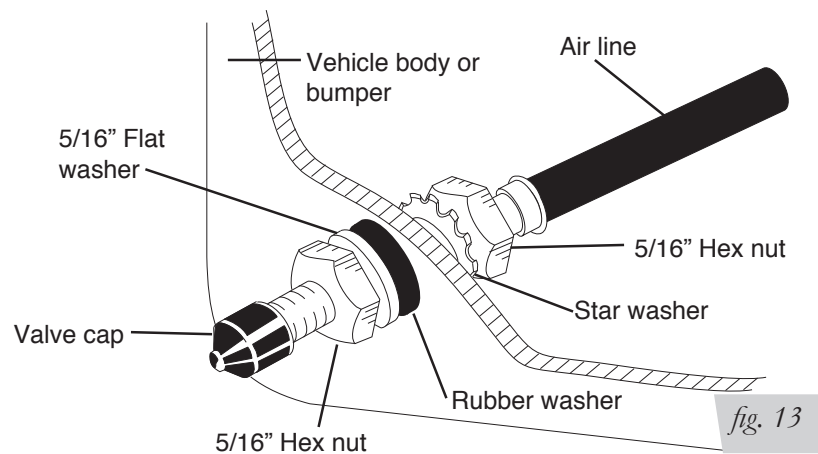

fig. 13
4. Place a 5/16" nut and star washer on the air valve. Leave enough of the inflation valve in front of the nut to extend through the hole and have room for the rubber washer, flat washer, and 5/16" nut and cap. There should be enough valve exposed after installation—approximately 1/2"— to easily apply a pressure gauge or an air chuck (fig. 13).